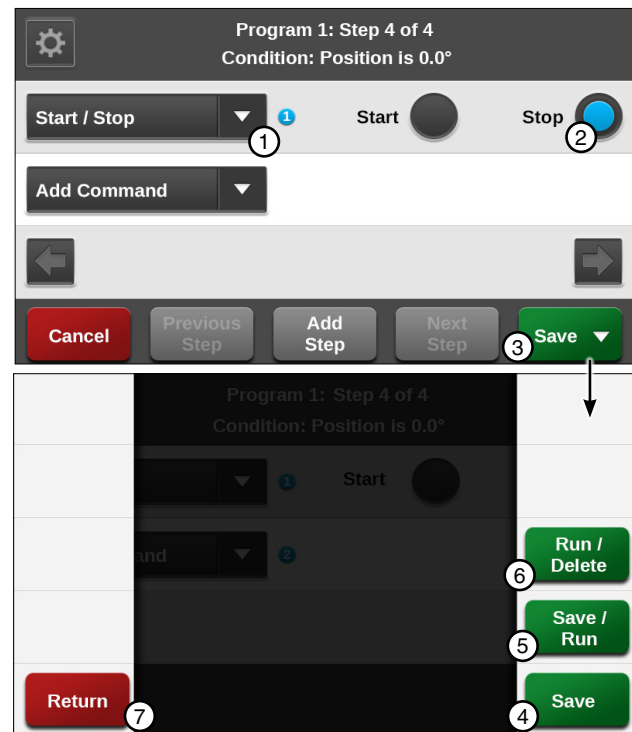

Figure 110-2 1. Start/Stop Command 5. Save/Run
12. Enter the command to be executed at this position. Refer to Figure 110-2.
13. Finish the program by selecting one of the following. Refer to Figure 110-2.